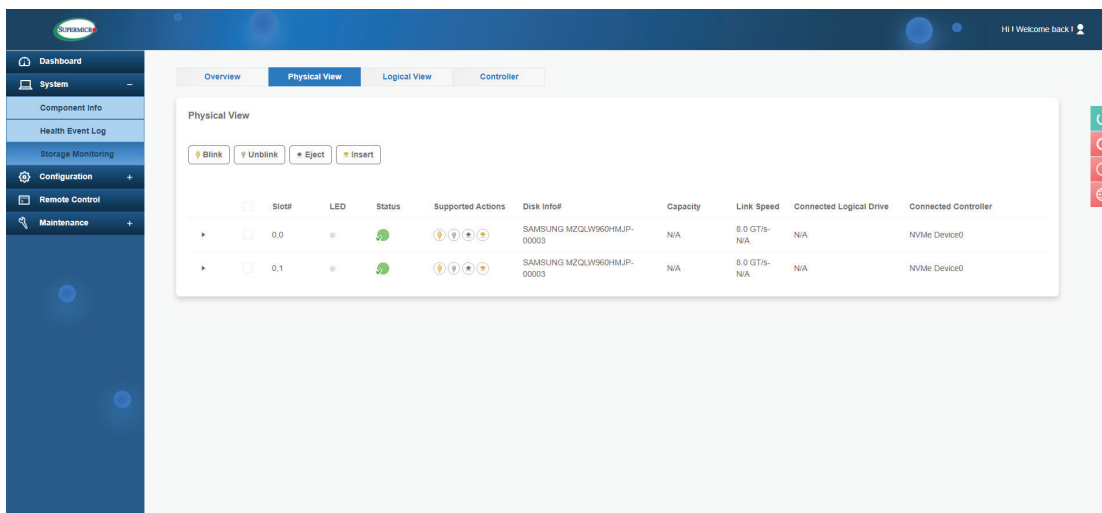

Figure 3-11. BMC Screenshot
- **BMC > Server Health > NVMe SSD** – Shows the temperatures of all NVMe drives, as in Figure 3-11.